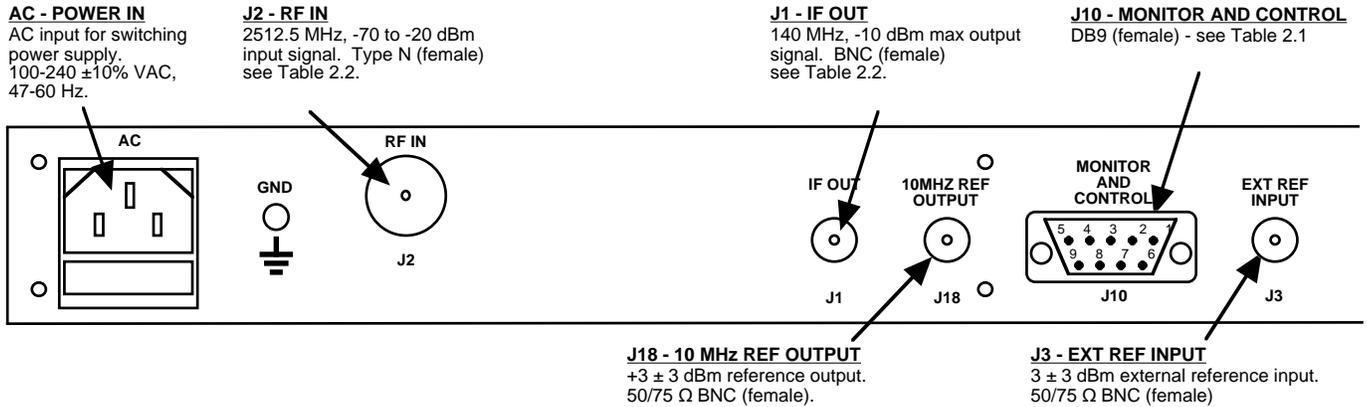

FIGURE 2.2 Rear Panel I/Os
2.2 Rear Panel Input/Output Signals - Figure 2.2 shows the input and output connectors on the rear panel.
1. Connect a -70 dBm to -20 dBm signal to RF IN, J2 (Figure 2.2)